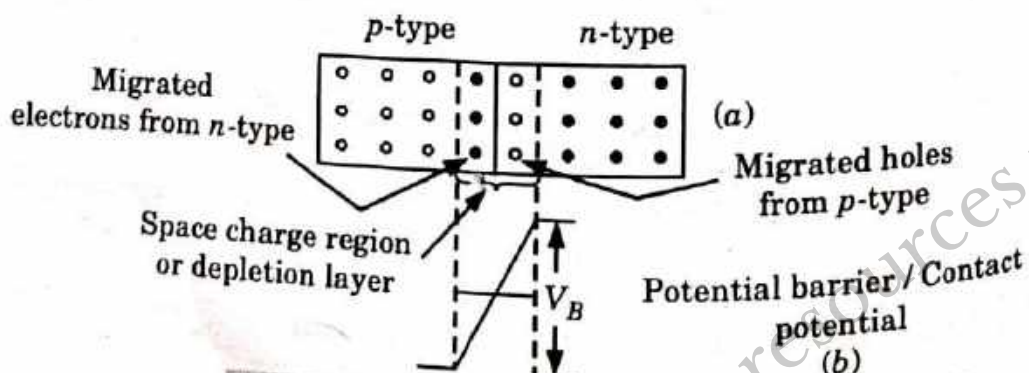

Fig. 3.16.1. p - n junction semiconductor.
2. When p -type material is intimately joined (diffused) to n -type, a p - n junction is formed. Fig. 3.16.1 shows the p - n junction formation.